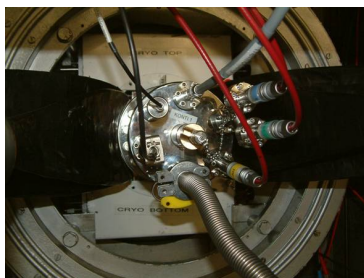

Figure 3.12: Connected Konti cryostat
1. Reconnect the grey thermometry cable and red sample HV cable to the cryostat, see Fig. 3.12.